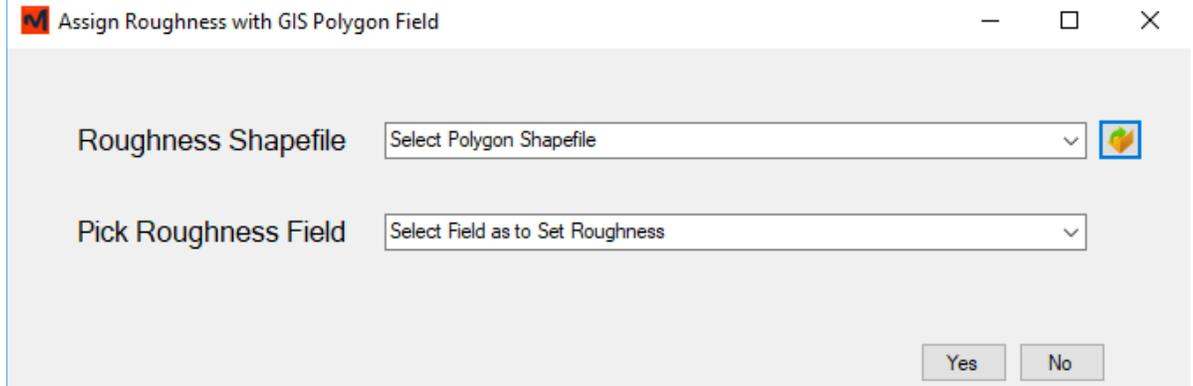

Figure 3-24. Update roughness with a GIS shapefile.
1. Select Mesh>Update Roughness Zone with GIS Shapefile. A form will appear (Figure 3-24)